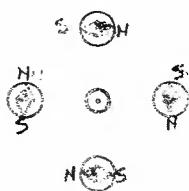

FIG. 2.
STEP 2. With the conductor vertical, move the compass around the conductor. Record the compass deflections on Fig. 2.